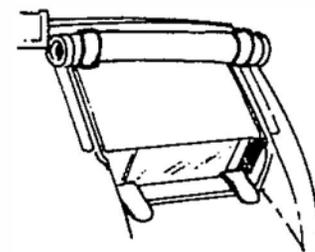

figure 21
3.4 You must roll and secure headlight flaps as shown in figure 21 before switching on your headlights. Roll the flaps under—so that the